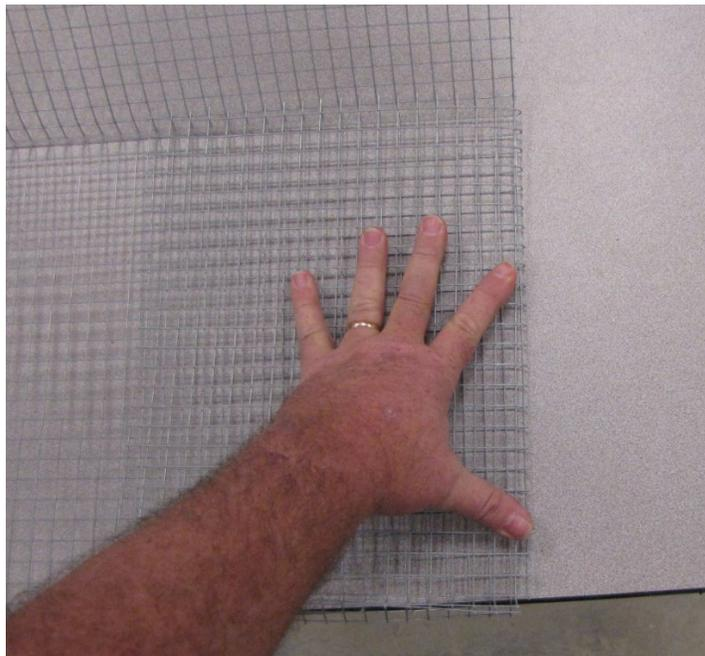

Figure 1-29
c. Fold wire then un-fold to create 90 degree corners (Figure 1-29).